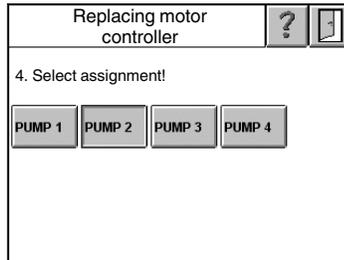

Fig. 7-8
4. Select assignment. Touch  to go to Fig. 7-8.